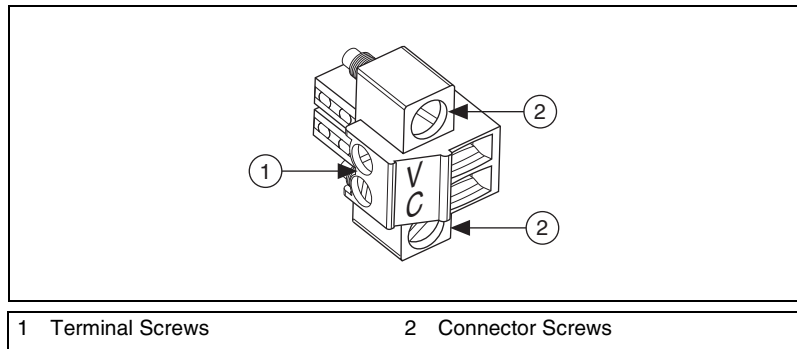

Figure 13. COMBICON Power Connector
2. Connect the positive lead of the power supply to the V terminal of the COMBICON power connector shipped with the cRIO-FRC II, and tighten the terminal screw. Figure 13 shows the terminal screws, which secure the wires in the screw terminals, and the connector screws, which secure the power connector on the front panel.